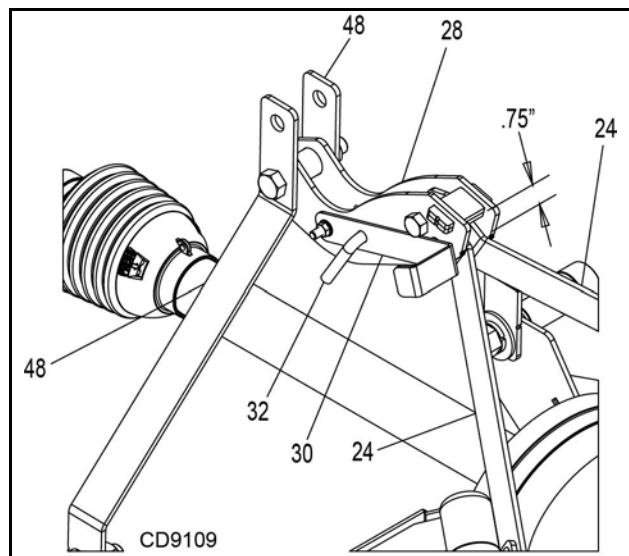
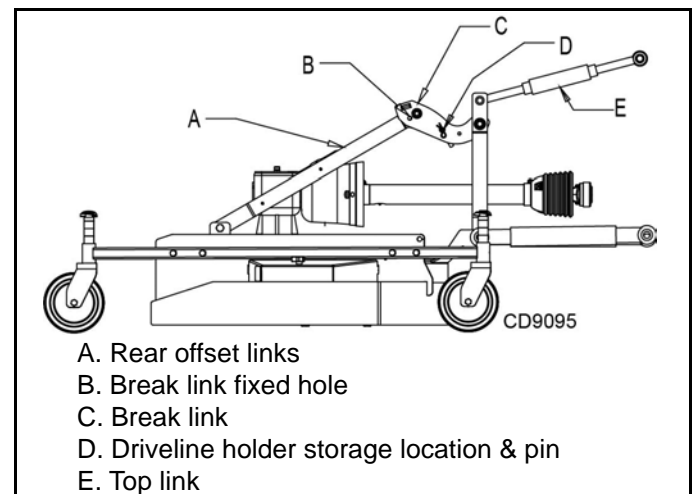

Figure 6. Driveline Holder Storage Position
Figure 13. Top Link Adjustment
7. Lengthen the tractor top link until mower break link cross piece is 3/4" above the rear offset links. See Figure 6. The front tires of the mower will lift off the ground before the rear tires when the unit is raised. This will allow the mower to follow the ground contour when mowing.
3. Install quick hitch sleeves (item 53) over mower cantilever hitch pins and retain with klik pins.
4. If the mower driveline is already installed on the mower, it should be placed on the driveline holder. The bent pin (item 32) should be removed from the holder, releasing it to swing down and support the drive.
5. The mower a-frame links (item 48) should be locked in a vertical orientation. Push the a-frame links rearward until the small holes in the top of the rear offset links (item 24) align to the cross-hole in the break link (item 28). Install the driveline holder bent pin (item 32) through these holes to hold this position and retain with hairpin cotter.
11. Remove the bent pin (item 32) and cotter from the break link (item 28). Swing driveline holder up into storage position. Install bent pin through holder and break link. Retain with hairpin cotter.
12. Adjust tractor top link until mower break link cross piece is 3/4" above the rear offset links. See Figure 6. The front tires of the mower will lift off the ground before the rear tires when the unit is raised. This will allow the mower to follow the ground contour when mowing.
When the cutting height is set, adjust tractor top link until mower break link cross piece is 3/4" above the rear offset links (see Figure 6 & Figure 13). The front tires of the mower will lift off the ground before the rear tires when the unit is raised. This will allow the mower to follow the ground contour when mowing.